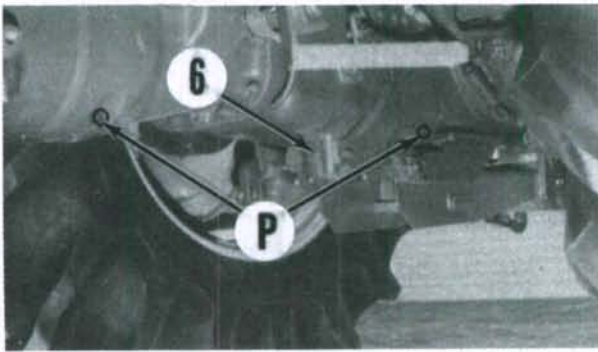

Fig. 255—Oil drain plugs (P) are located on left-hand side of transmission and differential housings. Oil strainer element is located above filter cover (6).
**210.** The transmission/differential lubricant is the operating fluid for the hydraulic system. Manufacturer recommends renewing the hydraulic fluid after every 500 hours of operation, or annually, whichever comes first. Drain plugs (P—Fig. 255) are located on left-hand side of differential housing and transmission housing.